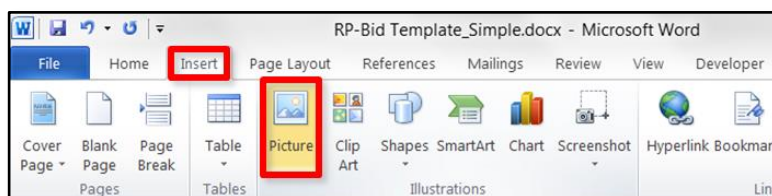
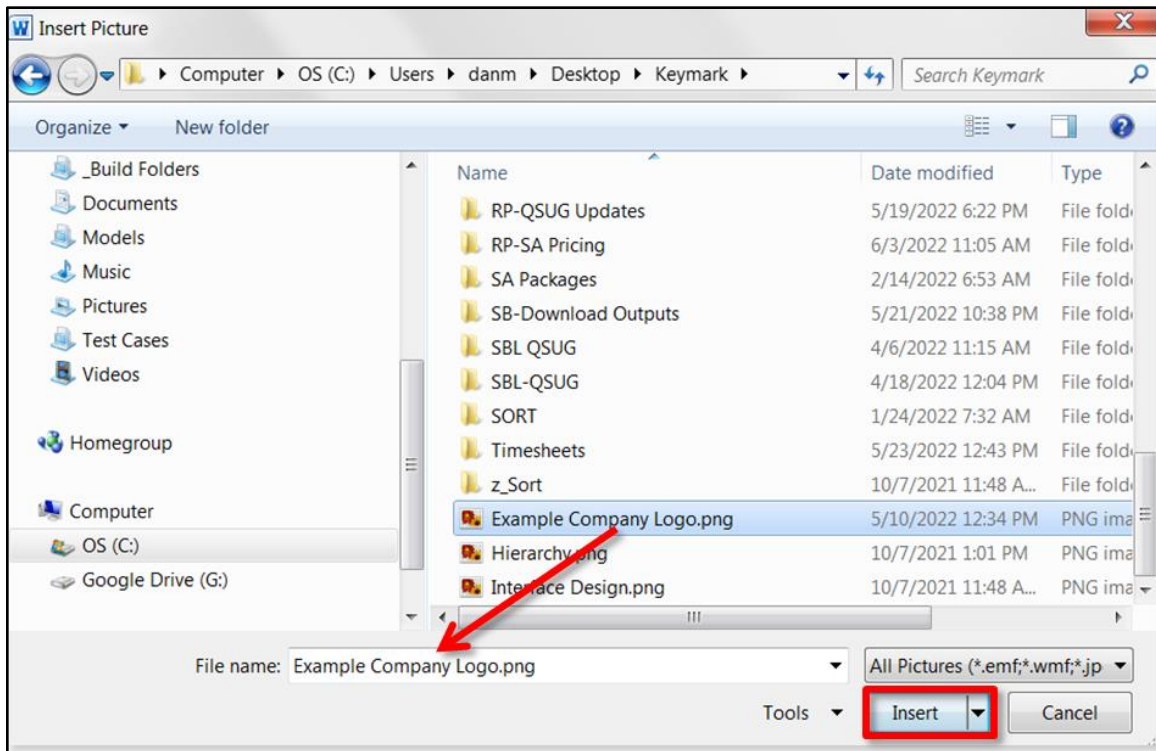

Figure 34: Click on the Picture button to insert your logo.
Figure 35: Navigate to the location where your logo file is stored, select it, and click on the **Insert** button.
4. To begin, click on the picture that says “*Insert your logo here*” to select it, and then use the Delete key on your keyboard to delete the picture from the template. Now, with your mouse icon still active in the cell where the temporary picture was placed, go to the ribbon at the top of your Microsoft Word window and click on the Insert tab. From the options listed, click on the Picture button, as shown in **Figure 34**. This will open the *Insert Picture* dialog box shown in **Figure 35** on the following page.
5. Use the Insert Picture dialog box (below) to navigate to the location where your company's .PNG logo file is stored. Click on your logo file to select it, and then click on the **Insert** button to insert your logo into the template, as shown in **Figure 35**.